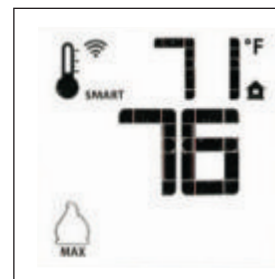

Figure 63. Smart Mode
- To activate this function, press the Thermostat Key until the word “SMART” appears to the right of the thermometer bulb icon. Fig. 63.